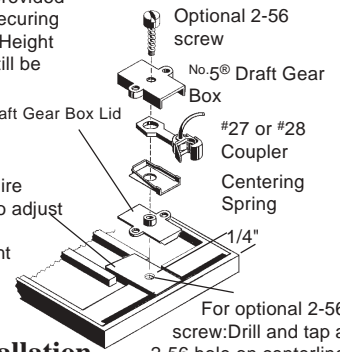

Fig.1
2. Use screws (metric) that come with model to secure coupler assembly. Usually there are two screws for each coupler, one for each side mounting lug. If screws are missing or you wish to convert to a single 2-56 screw, drill and tap a 2-56 hole 1/4" from edge of model on centerline. Use a 2-56 screw of appropriate length to secure coupler. See Fig.1.